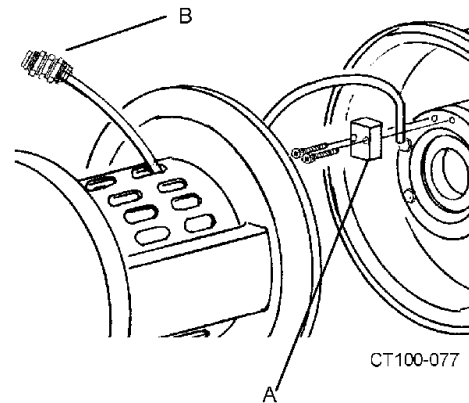

Figure 8 - Cascade System Installation
When this option is ordered, a fitting assembly (Part Number 60112) (Figure 8, item B) is supplied for directing a flow of water onto the backplate/seal area.
- The water cascade block (Figure 8, item A) must be above the seal on the assembled backplate to flow water onto the seal face.